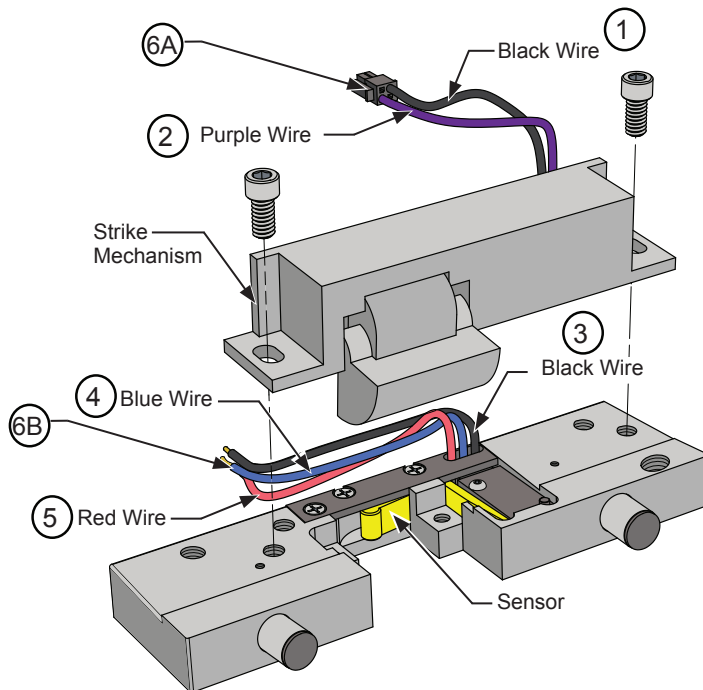

FIG. 7
1. Before installing the strike, make the necessary wire connections. Refer to the table below in. **(Fig. 7)**
⑥A for ESK/ESP strikes.
⑥B for latch/deadbolt and monitor on ESP strikes only.